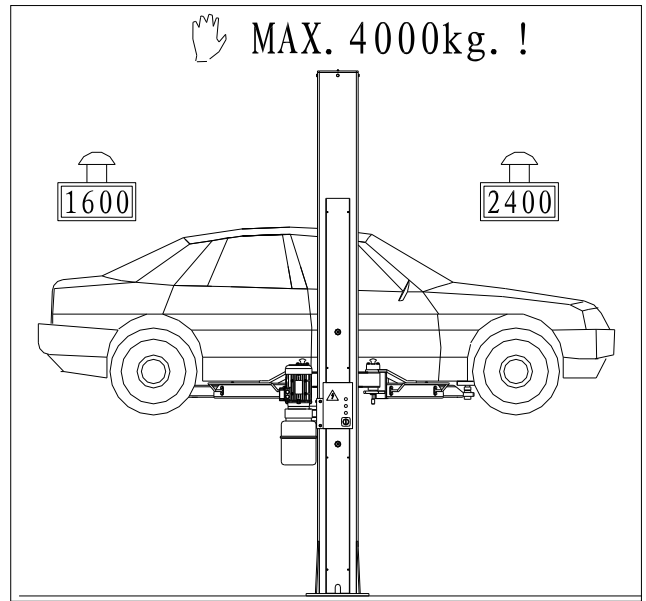
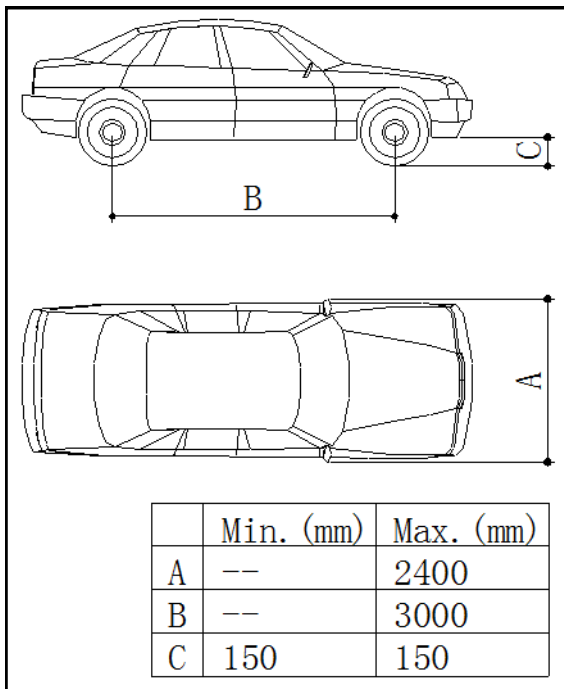

Fig. 7 Weight Distribution
Fig. 6
- ◆ Only authorized vehicle (Fig. 6 & Fig. 7) are raised without exceeding the rate capacity and overall dimensions.